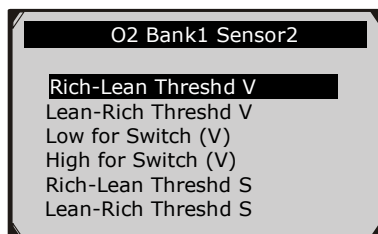

Figure 6-25
- 4) View test results of selected O2 sensor. (Figure 6-25)